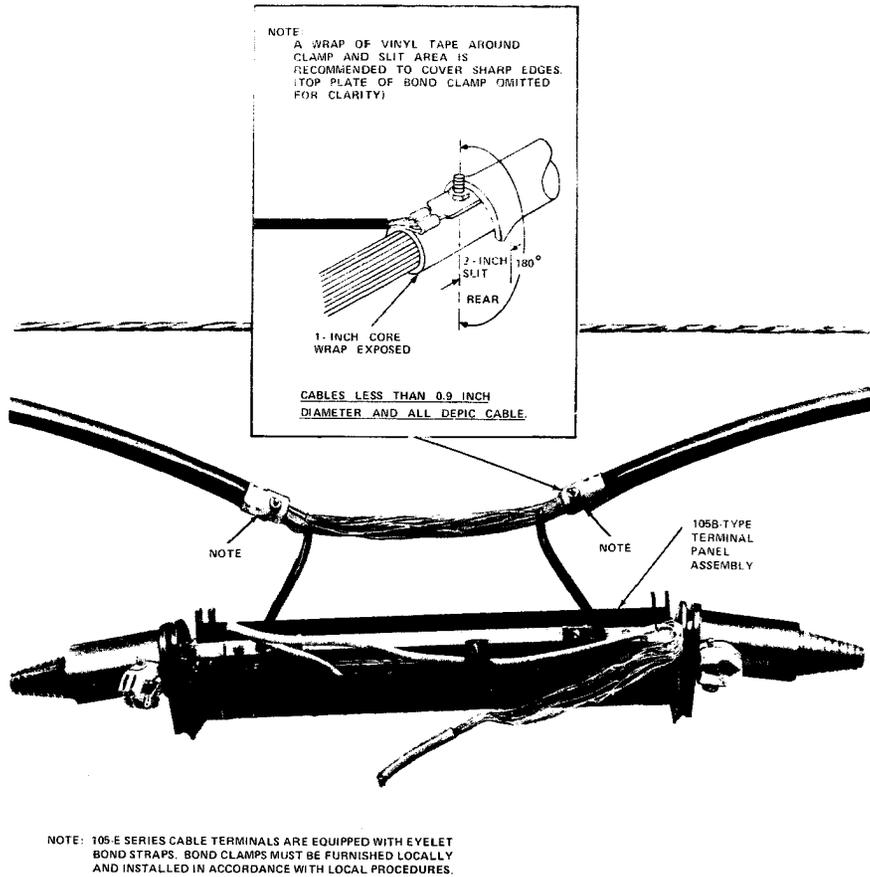

Fig. 27—Installing Bond Clamps (105B-Type Cable Terminal)
4.21 Center the terminal panel assembly at the sheath opening and install the bond straps to support the assembly as shown in Fig. 27. Install the bond clamps by sliding the inner shoe of the bond clamp between the core wrap and metal shield until the threaded stud hits the end of the sheath. Tighten the clamp using a 216-type tool only. Cut off the excess stud and wrap the clamp with a layer of vinyl tape.